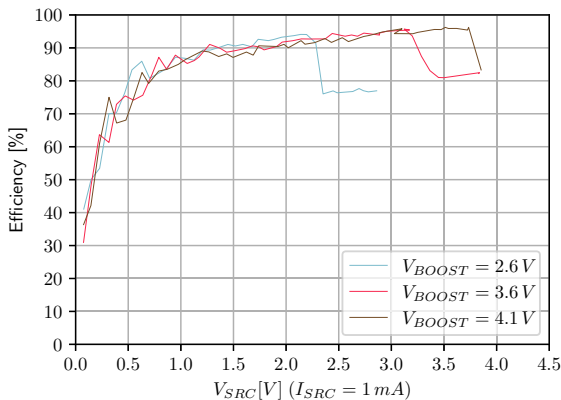

Figure 10: Boost efficiency for $I_{SRC} = 1\text{mA}$
- **VBOOST**: Measure the current and the voltage. Repeat the measurement a copious number of times to be sure to capture the current peaks. Figure 10 has been obtained by averaging over 100 measurements configured with a 100 ms integration time.